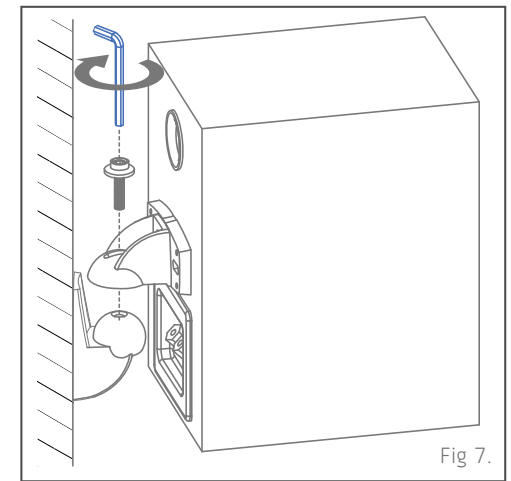

Fig 7.
- Lower the socket piece attached to the speaker onto the ball joint. Insert bolt and washer into joint and turn with allen key, but do not fully tighten. (Fig 7.)